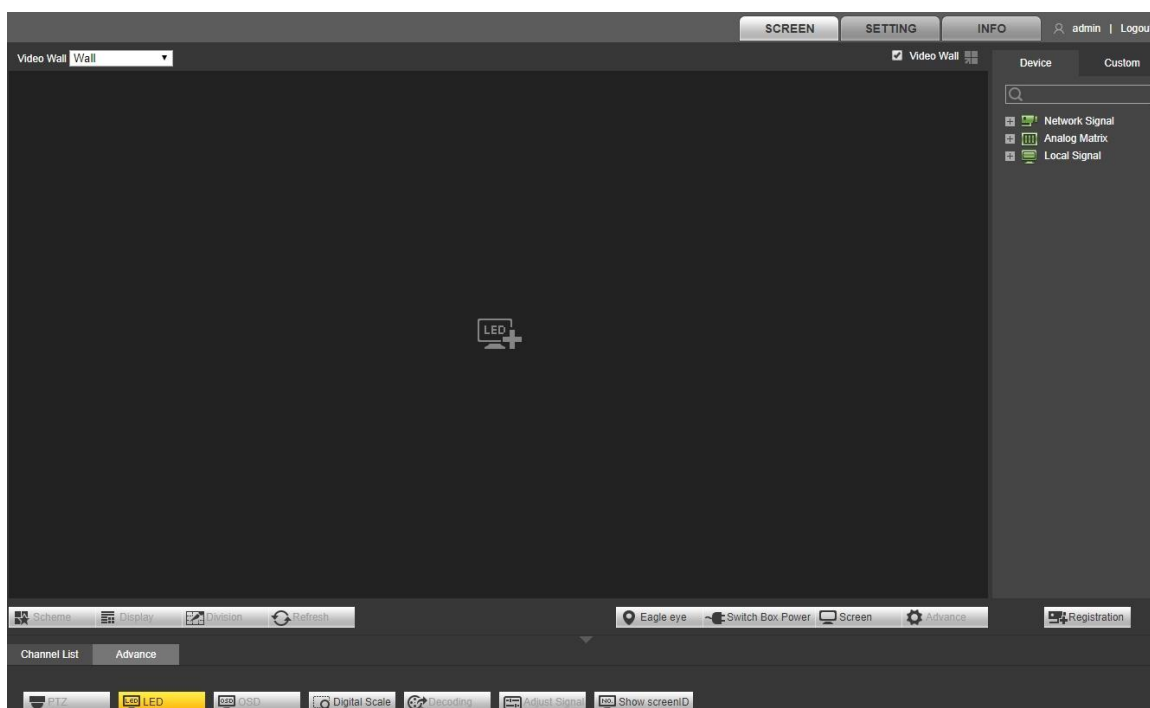

Figure 3-30
Step 1 Click  Advance, and then click  LED, as shown in Figure 3-30.